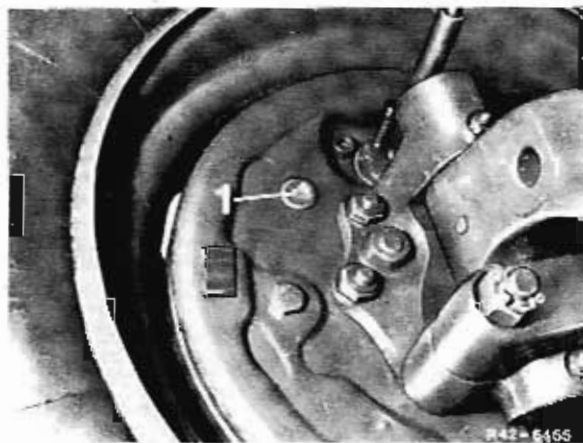

Fig. 2
Holes are provided in the brake support plate (Fig. 2, item 1) and in the webs of the brake shoes for releasing the brake shoes.